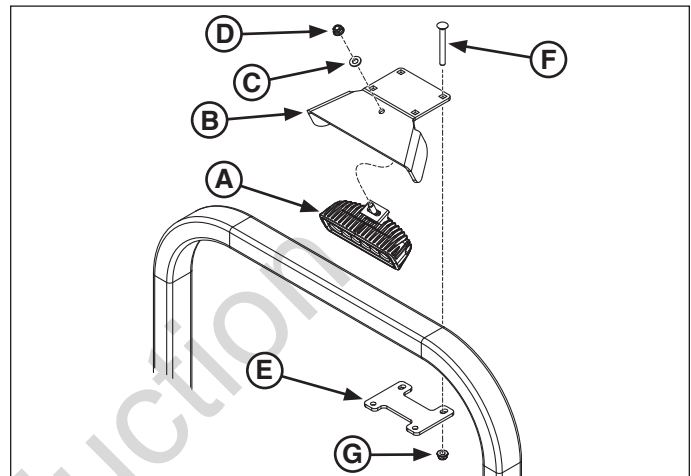

Figure 1. Mounting the Headlight
- Assemble the headlight (**A**, **Figure 1**) to the mounting bracket (**B**) using the lock washer (**C**) and nut (**D**) that is currently pre-installed onto the headlight stud.